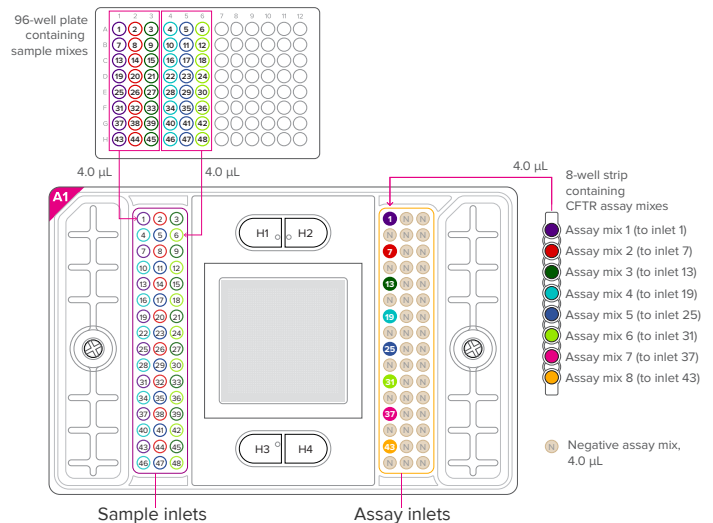

Figure 5. Loading map
- To maintain traceability, note the orientation of the A1 corner, assay inlets, and sample inlets, as shown in Figure 5 on page 3, before you start pipetting.
- 1 Pipet the CFTR assay mixes and sample mixes into the LP 48.48 IFC as shown in Figure 5 on page 3.
- a Carefully pipet 4.0 μL of each CFTR assay mix from the 8-well strip into the designated assay inlets on the IFC, as shown in Figure 5. When pipetting, dispense the CFTR assay mix while making contact with the side of the inlet near the bottom of the well.
- b Carefully pipet 4.0 μL of non-assay mix into the remaining assay inlets (N), as shown in Figure 5. When pipetting, dispense the non-assay mix while making contact with the side of the inlet near the bottom of the well.
- c Carefully pipet 4.0 μL of each sample mix into the designated sample inlet of the IFC based on the predefined sample map, as shown in Figure 5. When pipetting, dispense the sample mixes while making contact with the side of the inlet near the bottom of the well.